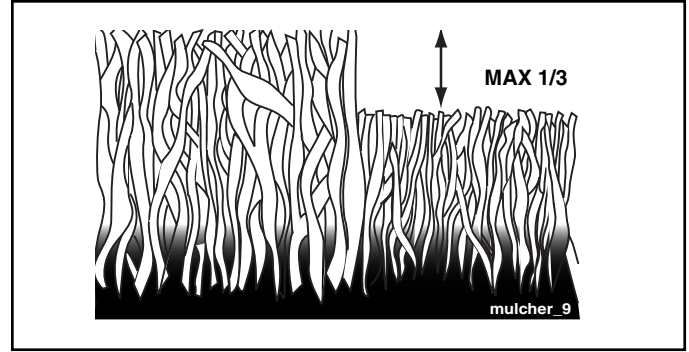

FIG. 12
- For best results, adjust the mower cutting height so that the mower cuts off only the top one-third of the grass blades (See Fig. 12). For extremely heavy mulching, reduce your width of cut on each pass and mow slowly.